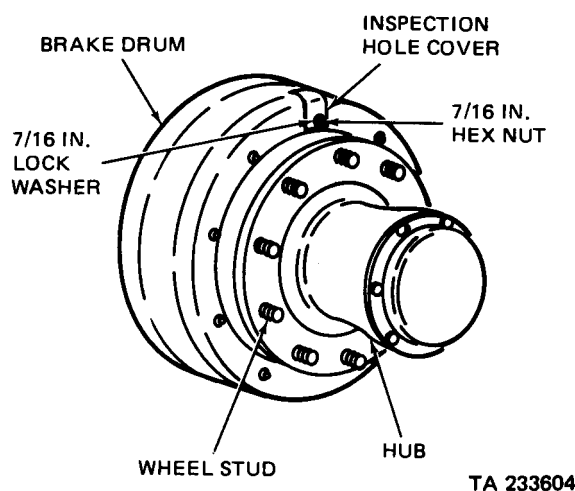

Figure 4-23. Hub and brake drum (All models except M127)
(2) All models except M127. The brake drum (fig. 4-23) is attached to the hub through a dished brake drum adapter. The adapter is secured to the hub by 10 wheel studs and to the drum by 10 bolts, lockwashers, and nuts. One of these bolts also secures the inspection hole cover to the drum. The inspection hole permits the brake lining clearance to be checked. A hub cap and gasket, fastened by six cap screws and lockwashers over the center of the hub, excludes moisture and foreign matter.